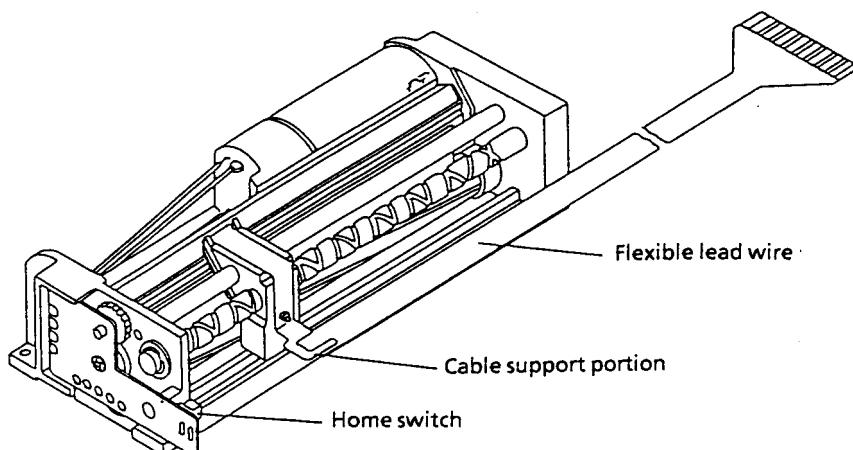

Figure 8-19 Inserting the Flexible Cable
⑥ Insert the flexible cable into the cable support of the flexible cable plate with care not to bend the heat compressor of the head unit (see Figure 8-19).